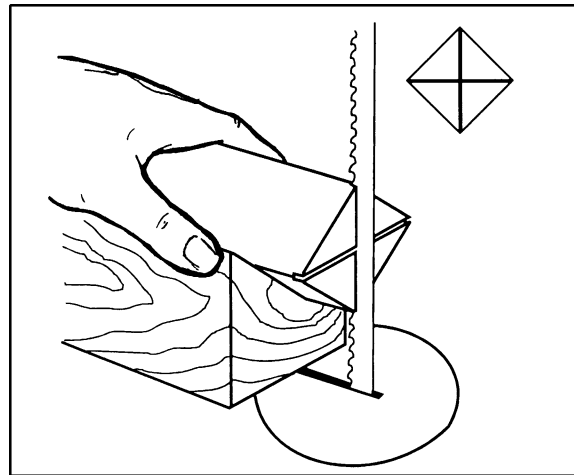

Figure 9-3
- Extremely hard woods may require kerfs cut into the ends of the stock (Figure 9-3) using a band saw, so the wood will accept the spur center and the live center.